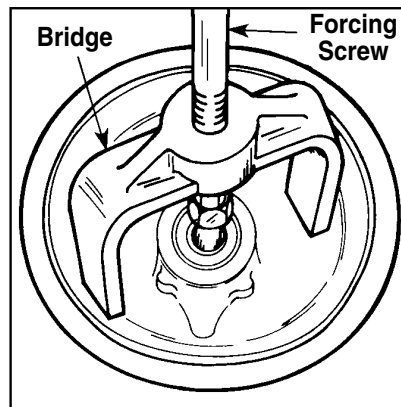

Figure 2
- Pulling force may be exerted with either the forcing screw and bridge assembly or the slide hammer. See Figures 2 and 3.